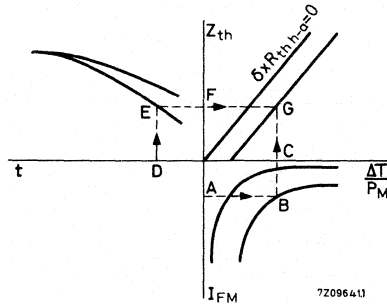

Fig. 1
Fig. 1 is used to illustrate how the graph on page 6 should be used.
1. Starting at a point A in Fig. 1 on the  $I_{FM}$  axis trace horizontally until the appropriate  $\Delta T/P_M$  curve is reached at point B.